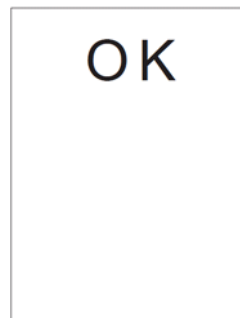

Fig. 15
- (3) When the aircraft is stopped at the correct stopping position, a message "OK" will be displayed on the screen in several seconds. (Fig.15)